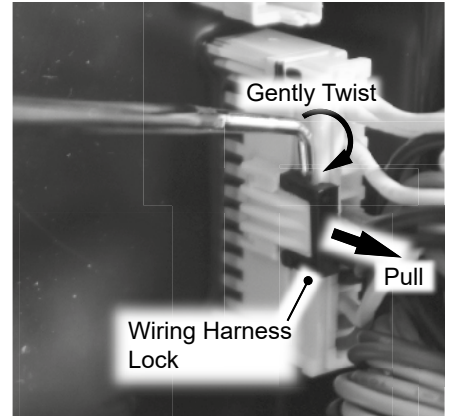

Figure 9 - Black harness lock removal
- 18 On connection point I, use an O-ring pick to apply pressure to the point shown in Figure 9 while pulling the harness from the board. Remove "keeper" and place aside in a safe place for reinstallation.